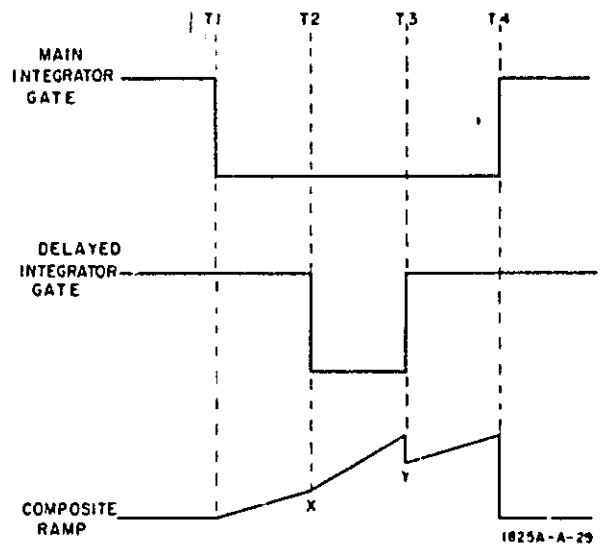

Figure 4-4. Sequence of Events, Mixed Mode Sweep Operation
**4-106. MIXED MODE SWEEP OPERATION.** This discussion can be followed on schematics 2, 4, 5, and 6. The sequence of events is illustrated in figure 4-4.
4-108. At time  $t_2$ , the coincident pulse from the comparator triggers the delayed integrator gate which unclamps the delayed integrator. At this time, the reference voltage for the delayed integrator is point X (figure 4-4) on the main ramp. Therefore the delayed ramp starts rising from that point. At time  $t_3$ , the delayed sweep terminates but can fall only to the delayed reference point which, at this time, is point Y on the main ramp. The events between  $t_3$  and  $t_4$  continue but, because the oscilloscope CRT turns off at the termination of the delayed integrator gate they are not displayed.